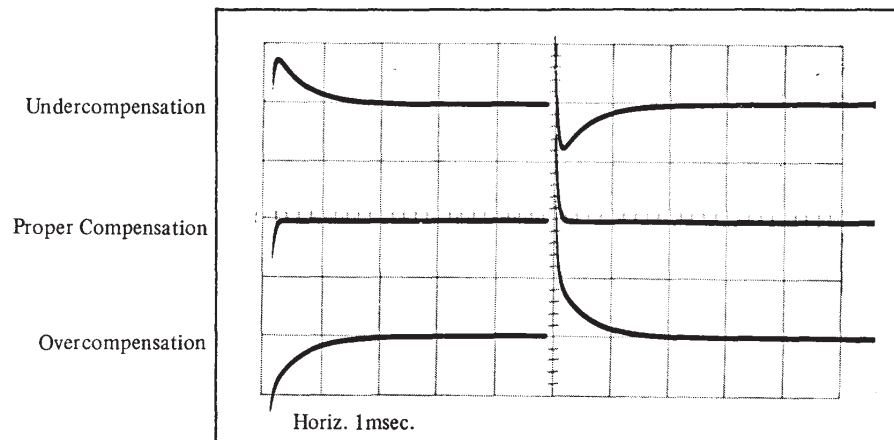

Figure 7 Model 2005 Preamp Pole/Zero Adjust
8. Set switch to CLAMPED, change scope to 20 mV/div. (vert.) and 1 ms/div. (horizontal). Set Function Generator frequency to 100 Hz. Now adjust RV2 for best pulse response as illustrated in center trace of Figure 7. Proper compensation requires a flat line, without overshoot or long tailing. Preamp Pole/Zero is now set precisely.